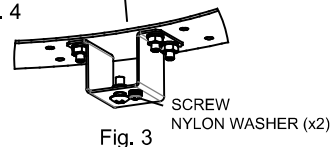

Fig. 3
3. Remove the screw and two nylon washers pre-installed on one of the ceiling brackets (Fig. 3).
6. Re-install the screw with two nylon washers to one of the ceiling brackets to prevent an accidental rotation of the fixture (Fig. 3).